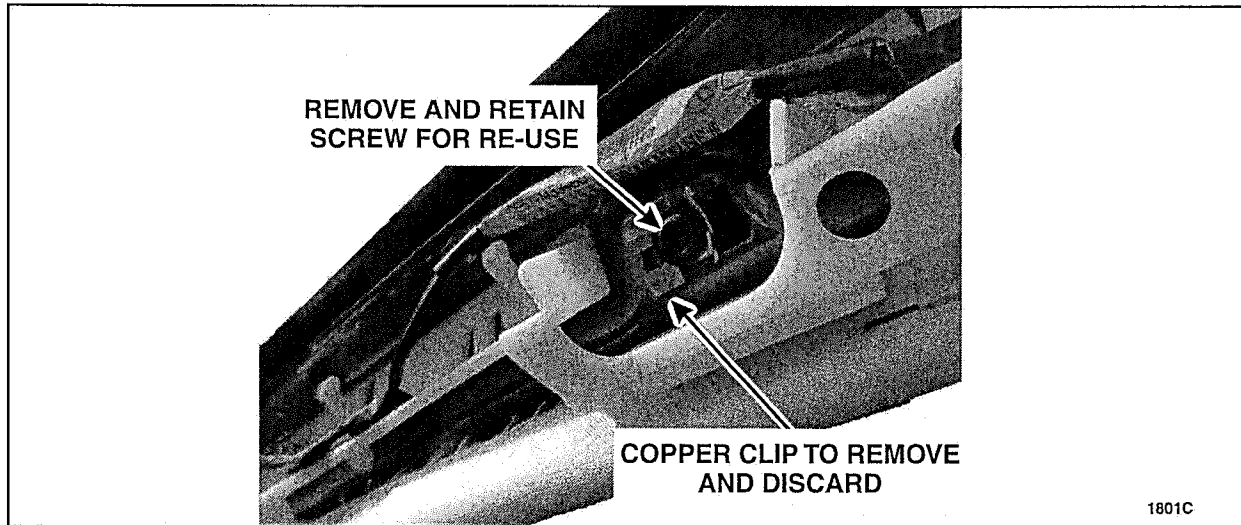

FIGURE 3
3. Remove and discard the top A-Pillar clip from the body. Retain the screw for re-use. See Figure 3.